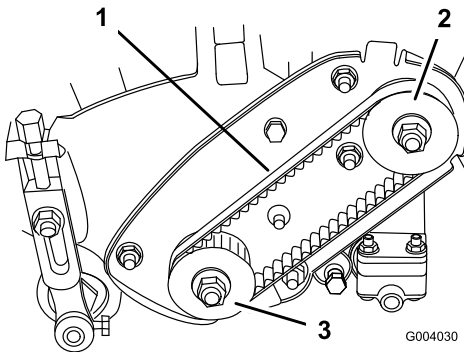

Figure 34
2. Check tension by depressing belt (Figure 34) at mid span of pulleys with 4 ± 1 lb. of force. Belt should deflect $3/16$ to $5/16$ inch (4.8 to 7.9 mm). If the deflection is incorrect, proceed to next step.